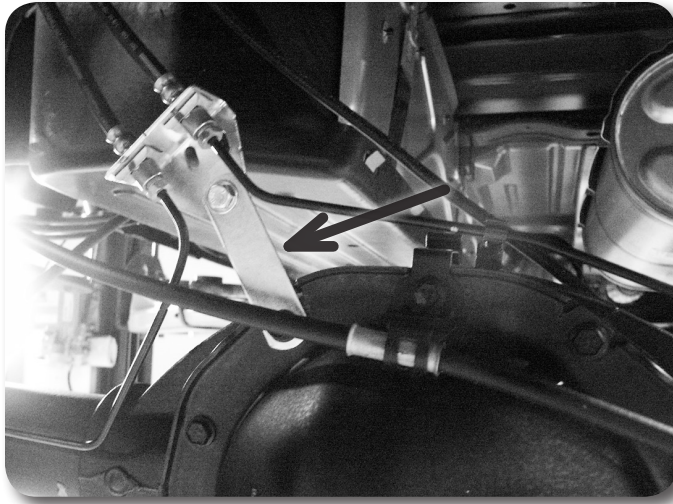

Figure 38
15. Install the provided straight 3" brake line bracket to the top of the differential using factory mounting hole and bolt which must be removed from the factory brake line bracket. Attach the factory brake line bracket to the relocation bracket with a 5/16" x 1" bolt, nut and washers. Torque the factory and 5/16" bolt to 20 ft-lbs **Figure 38**.